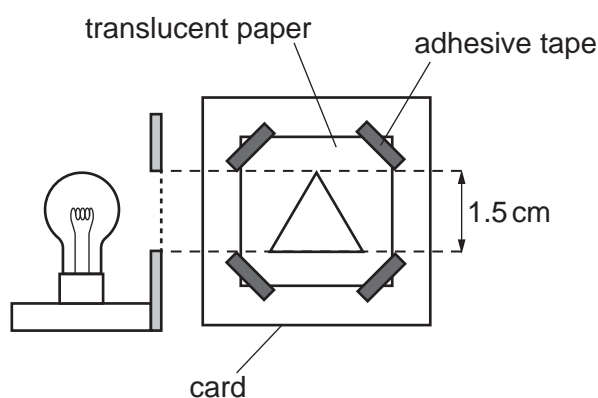

Fig. 3.1
- (ii) Illuminated object with a triangular hole of height 1.5 cm (see Fig. 3.1). The hole is to be covered with thin translucent paper (e.g. tracing paper). See note 2.